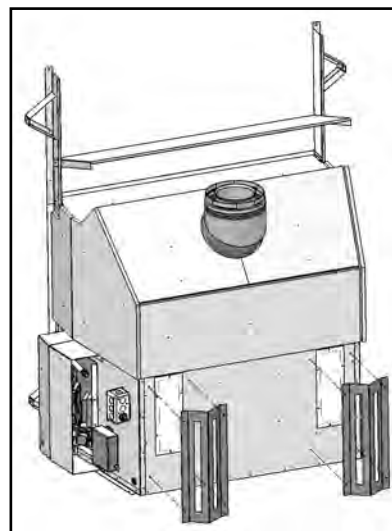

Figure 29: Installation of Back StandOffs.
2. Using eight (8) T20 screws provided, attach both back standoffs, as shown in Figure 29.